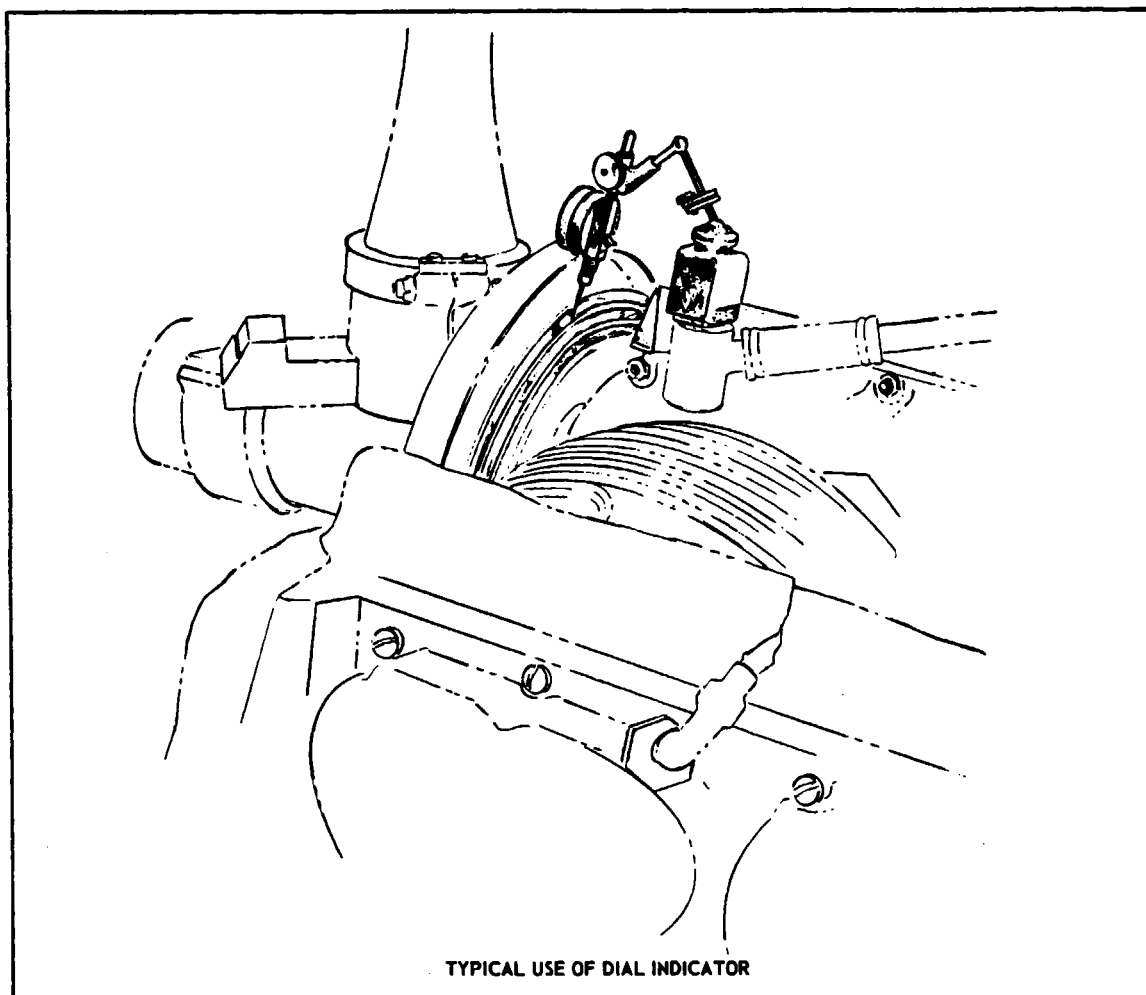

Figure 14-15. Checking Slip Ring Run-Out
2. If uneven wear is found or if wobble is noticed, set up dial indicator as in Figure 14-15 to check alignment of slip rings on prop shaft. (Push in to turn prop to eliminate play in prop thrust bearing.) If runout over 360 degree rotation is over 0.005 inches total or exceeds 0.002 inches in any 4 inch arc, refer to paragraph 14-51.